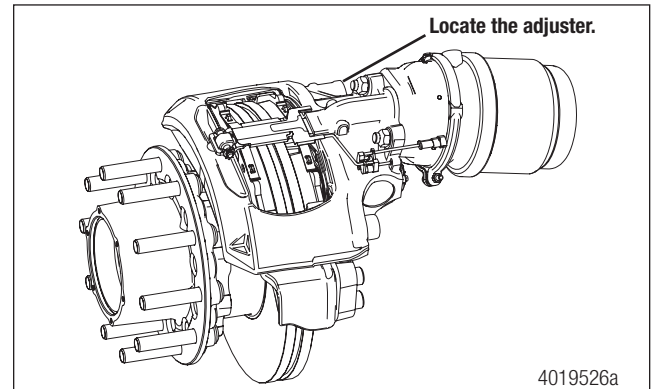
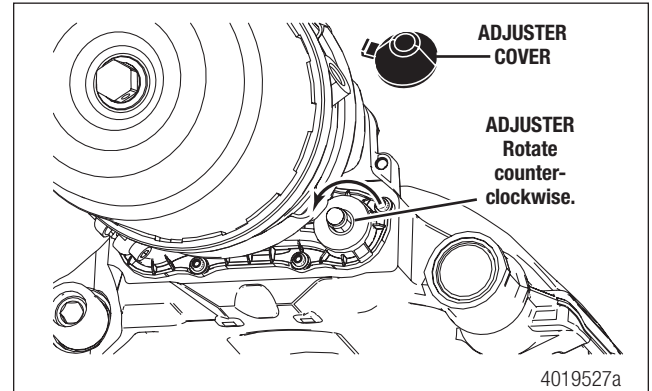

Figure 2
Figure 3
6. De-adjust the brake adjuster to provide clearance for caliper removal. To do so, remove the adjuster cap and turn the adjuster COUNTERCLOCKWISE until there is enough clearance to easily remove the pads. Figure 2 and Figure 3.